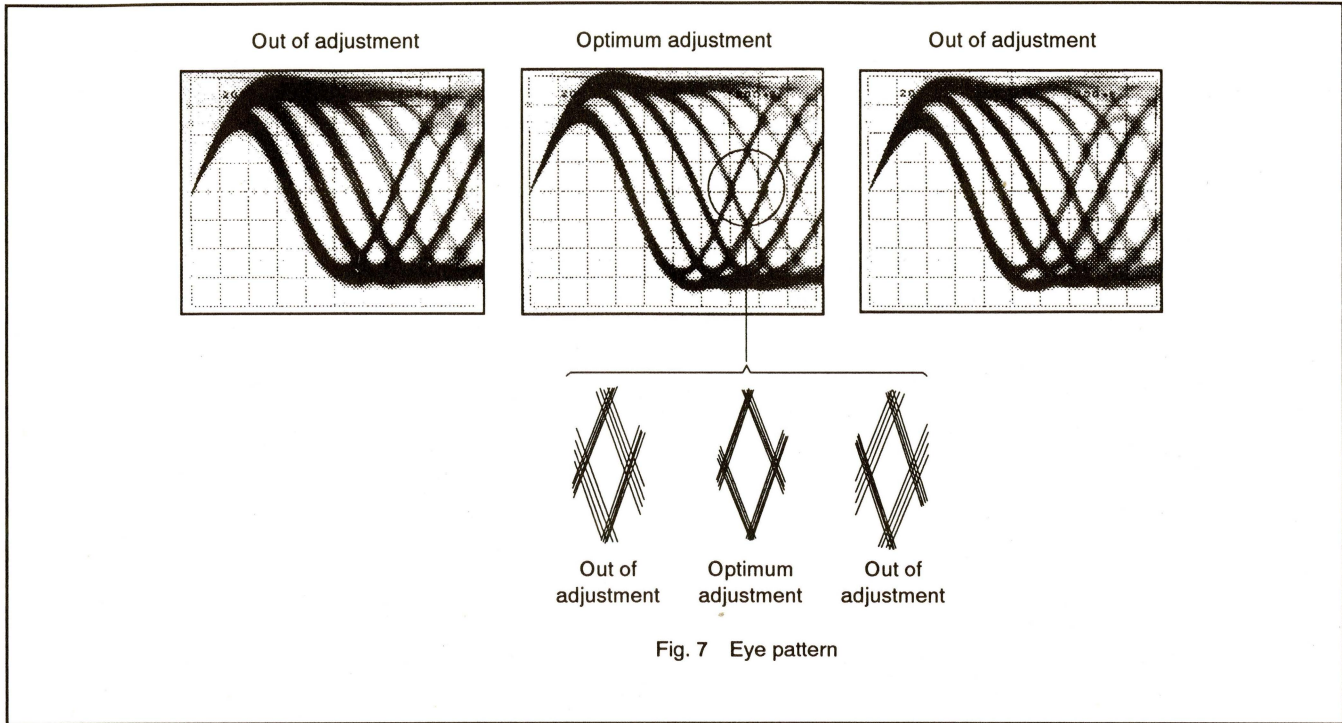

Fig. 7 Eye pattern
2. First, adjust the radial adjustment screw with the hexagonal screwdriver so that the eye pattern (the diamond shape at the center of the RF signal) can be seen the most clearly(Fig. 7).
3. Next, adjust the tangential adjustment screw with the hexagonal screwdriver so that the eye pattern can be seen the most clearly (Fig. 7).